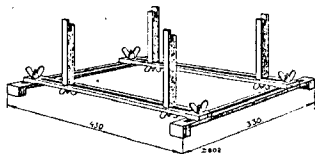

Fig. 2.
2. It is advisable to use a support when the chassis is being repaired and attention is drawn to the universal type shown in figure 2 (09.991.000).